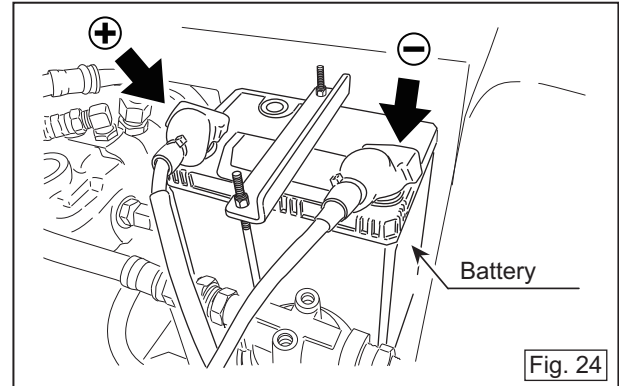

Fig. 24
- Removing and installing the battery (Fig. 24)